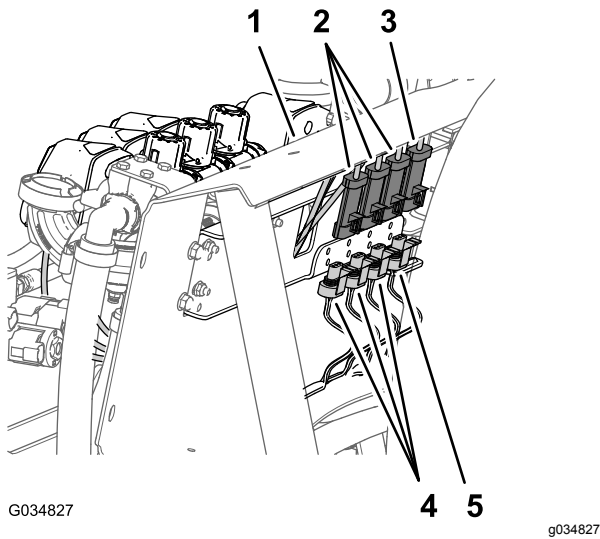

Figure 23
- At the back of the manifold mount, disconnect the 3-socket connector from the agitation valve and the 3-socket connectors from the 3 boom-section valves (Figure 23).